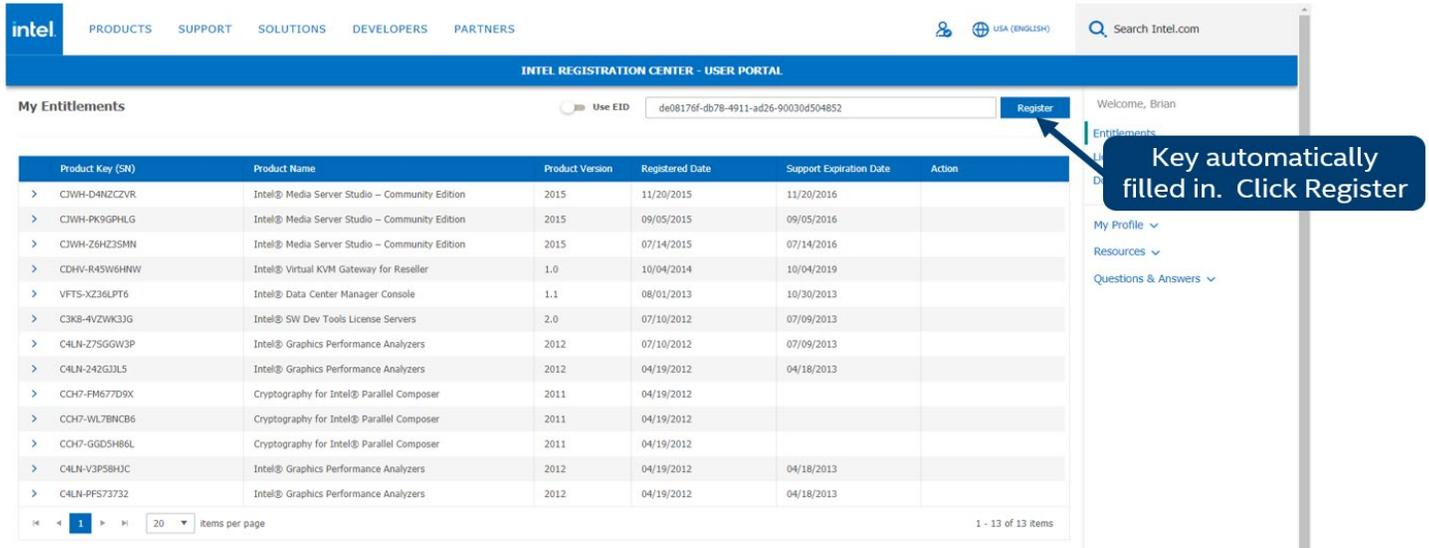

Figure 55. Register Key
- From the Registration Screen, Click the “Register” button to register the pre-entered license key number (see Figure 55)